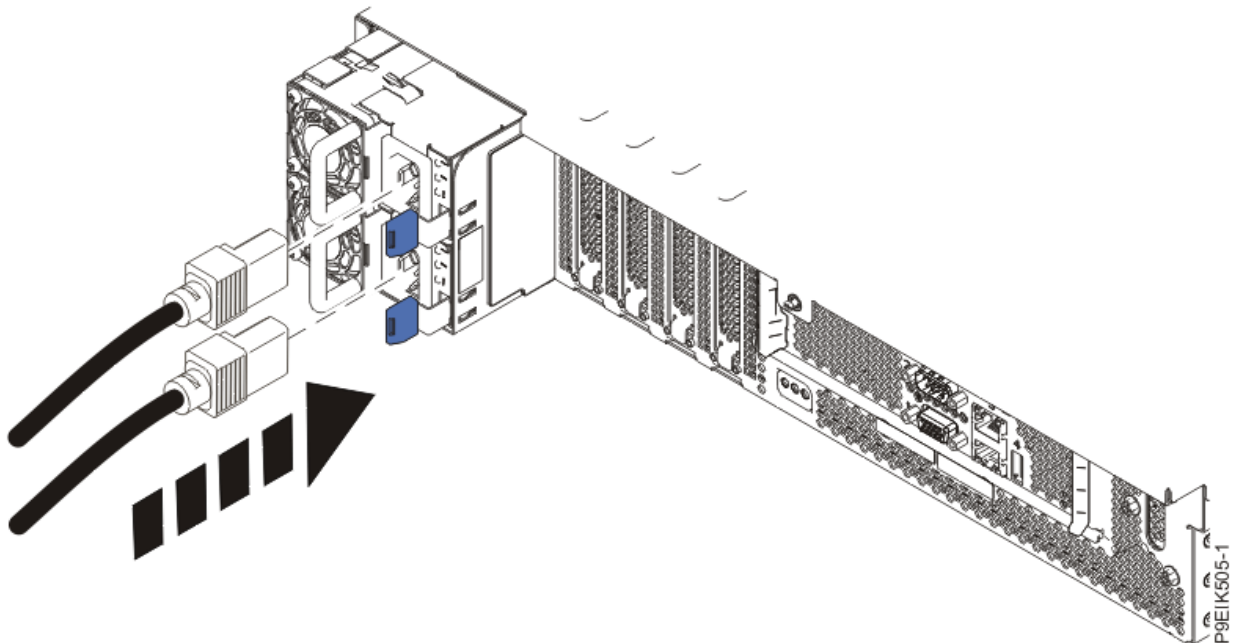

Figure 55. Connecting the power cords to the system
2. Using your labels, reconnect the power cords to the system unit as shown in Figure 55 on page 105.